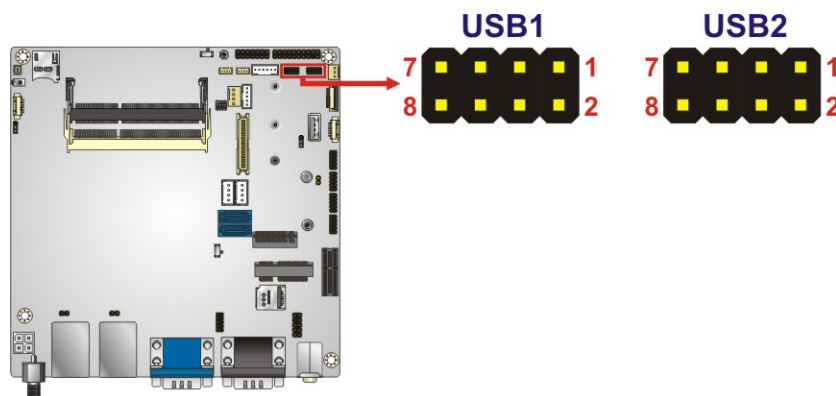

Figure 3-27: USB Connector Locations
- CN Location:** See **Figure 3-27**